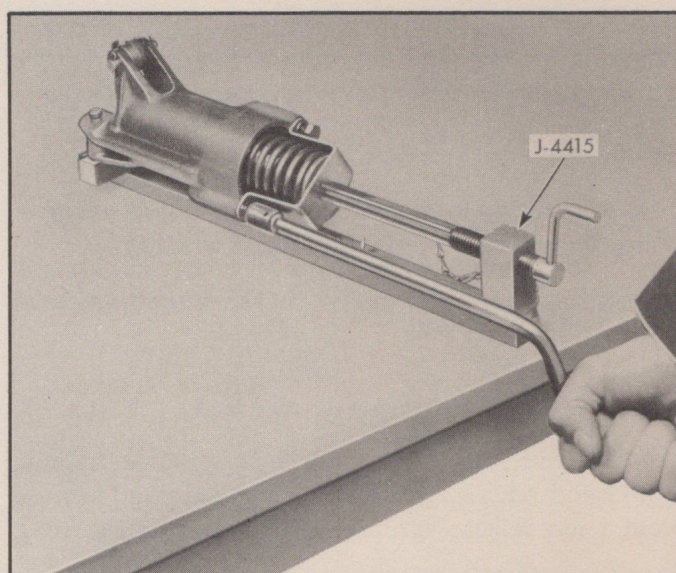

Fig. 169—Removing Rear Servo Spring Retainer Bolts
2. Remove two retainer to body bolts and lock washers using open end wrench while keeping ram of press against retainer ($1\frac{1}{2}$ " wrench) (Fig. 169).